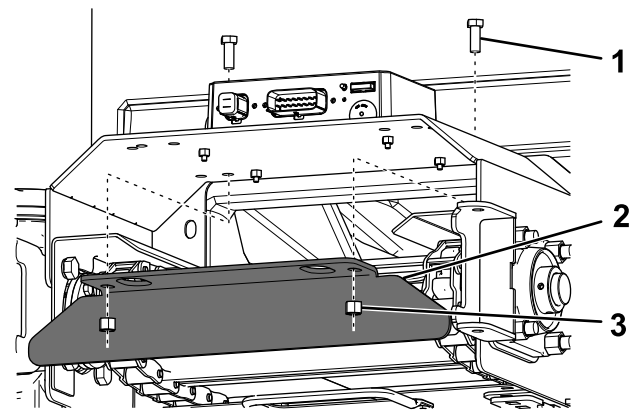

**Figure 25**
3. Remove the fasteners securing the front cover to the hopper (Figure 25).